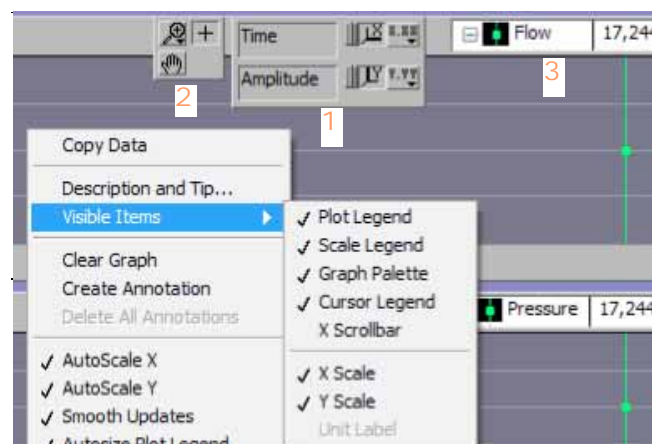

Figure 5-6 Graphs- Visible Items
In the Central Run Time graphs, you can make the **Graph Palette** and **Scale Legend** visible by right-clicking in each of the three plot areas themselves and selecting **Graph Palette** from **Visible Items** (see Figure 5-6 below). The **Cursor Legend (3)** is already visible by default